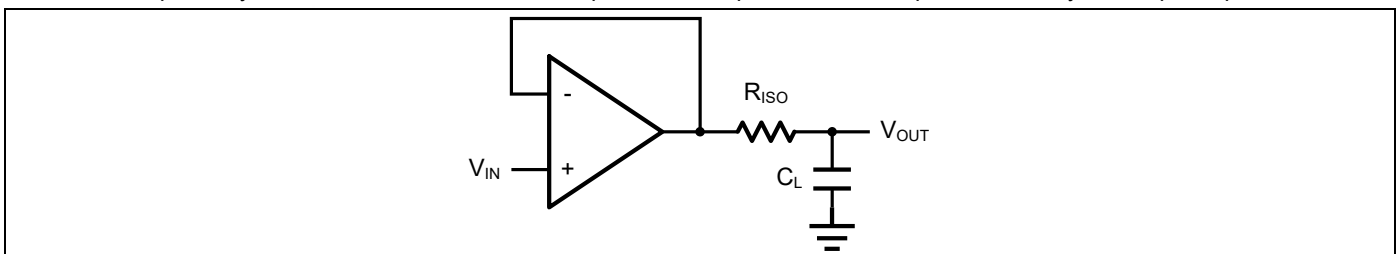
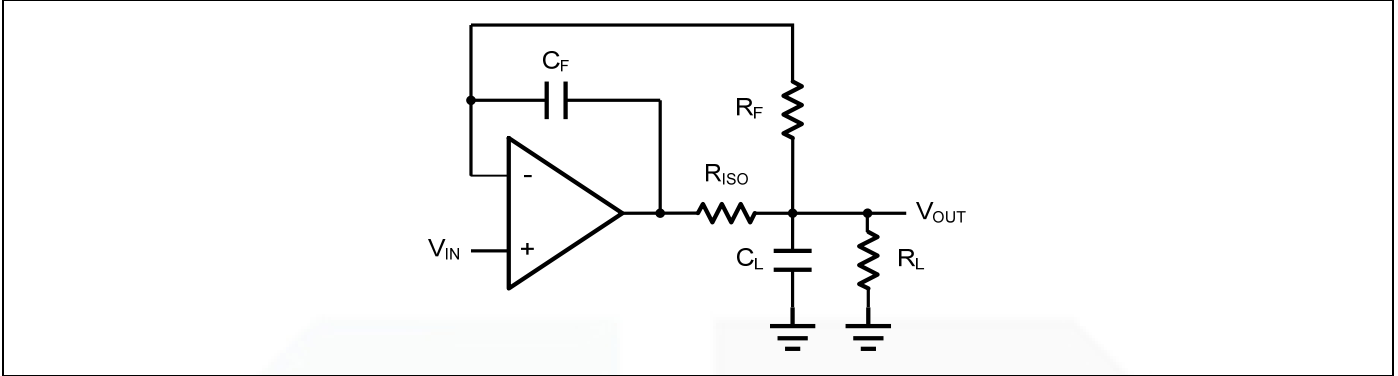

Figure 2. Indirectly Driving a Capacitive Load Using Isolation Resistor
Figure 3. Indirectly Driving a Capacitive Load with DC Accuracy
The GS855X family is optimized for bandwidth and speed, not for driving capacitive loads. Output capacitance will create a pole in the amplifier's feedback path, leading to excessive peaking and potential oscillation. If dealing with load capacitance is a requirement of the application, the two strategies to consider are (1) using a small resistor in series with the amplifier's output and the load capacitance and (2) reducing the bandwidth of the amplifier's feedback loop by increasing the overall noise gain. Figure 2. shows a unity gain follower using the series resistor strategy. The resistor isolates the output from the capacitance and, more importantly, creates a zero in the feedback path that compensates for the pole created by the output capacitance.
The circuit in Figure 3 is an improvement to the one in Figure 2.  $R_F$  provides the DC accuracy by feed-forward the  $V_{IN}$  to  $R_L$ .  $C_F$